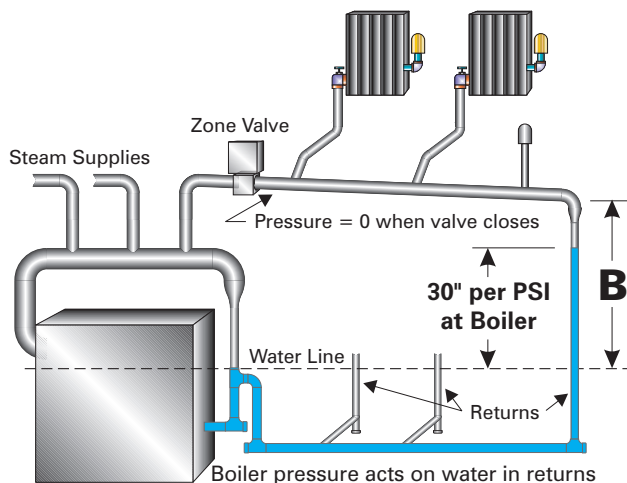
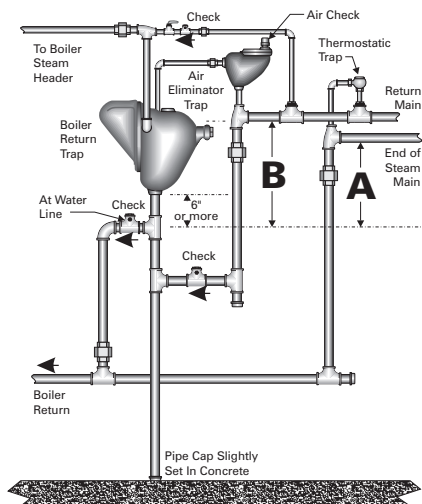

Figure 7: Dimension B – Result of Zoning or Using Traps on Gravity Systems
Figure 10: Typical Vapor System Boiler Return Trap and Air Eliminator Trap
- Figure 7 shows Dimension B for a One-Pipe Gravity System. Figure 10 shows Dimension B for a typical vapor system.
- Usually includes a *Boiler Return Trap* (or Alternating Receiver or Differential Loop) and *Air Eliminator Trap*. See Figure 10.